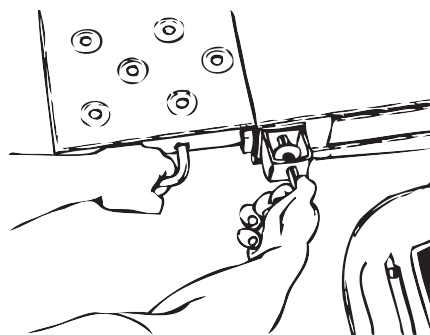

Figure 8
3. Pull both ramps completely out for loading. To release the loading ramp pull and hold the (spring-loaded) ramp release pin outward. (Figure 8) Pull the ramp out rearward a short distance, then release the pin.